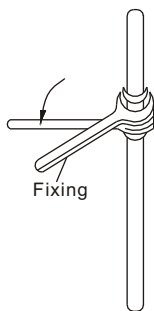

Fig 15
- When connecting flared connectors , the two pipes must be aligned with the same center. Then put on the nut and revolve it in and then tighten it with two spanners , see Fig 15.